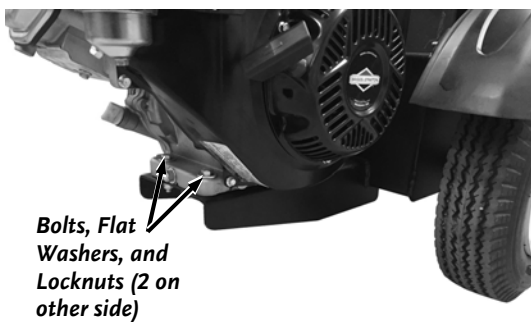

Figure 17
2. Secure the engine with four bolts, eight flat washers, and four Locknuts (Figure 17). For the 22 Ton and 28 Ton models, tighten the hardware using two 13mm Wrenches. For the 34 Ton models, tighten the hardware using a 16mm Wrench on the Bolt and a 17mm Wrench on the Locknut.